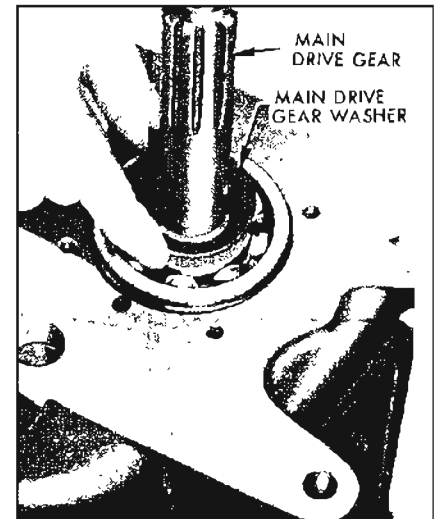

Figure 4-102—Main Drive Gear Washer Installation
23. Install main drive gear washer against bearing inner race. See Figure 4-102.